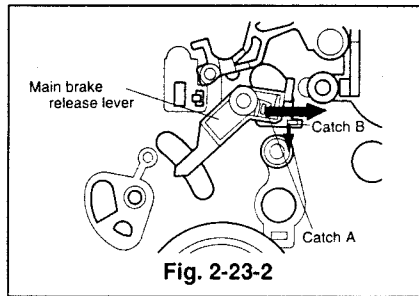

Fig. 2-23-2
- 4 Remove the main brake(TU) and the main brake spring J(TU). (Refer to Para. 2-17 for the removal method.)
- 5 Shift catch A of the main brake release lever, and push catch B at the same time, in the direction shown by each arrow. Unfasten catch B from the main plate to remove the main brake release lever. (Refer to Fig. 2-23-2).